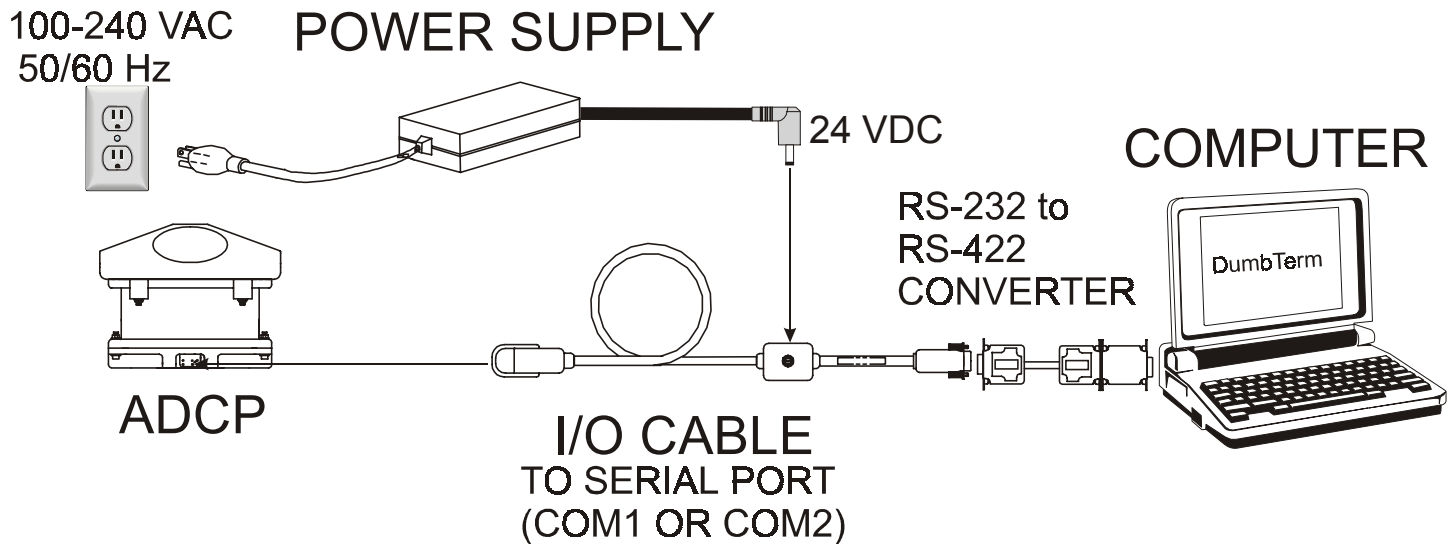

Figure 2. ADCP Connections
- a. Connect the ADCP as shown in Figure 2. Place the ADCP in a bucket of water (enough water to cover the transducer head). If the ADCP is not placed in water, some of the tests will fail.